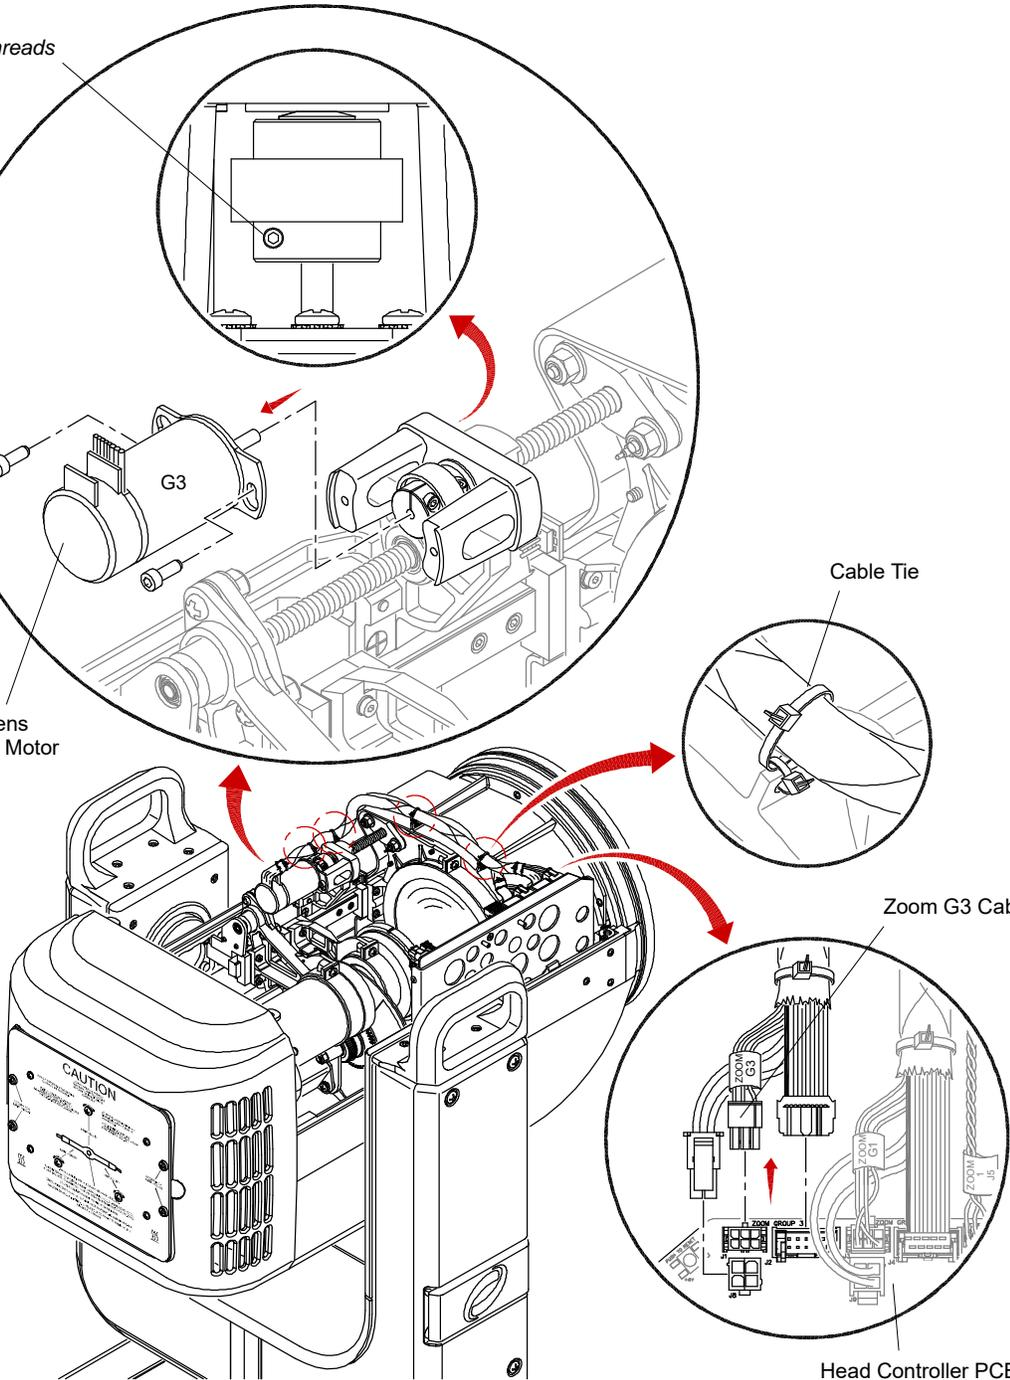

Figure 3-35: Removing Zoom Lens Group 3 Motor
- c. Lens Group 3 Motor (G3) in **Figure 3-35**